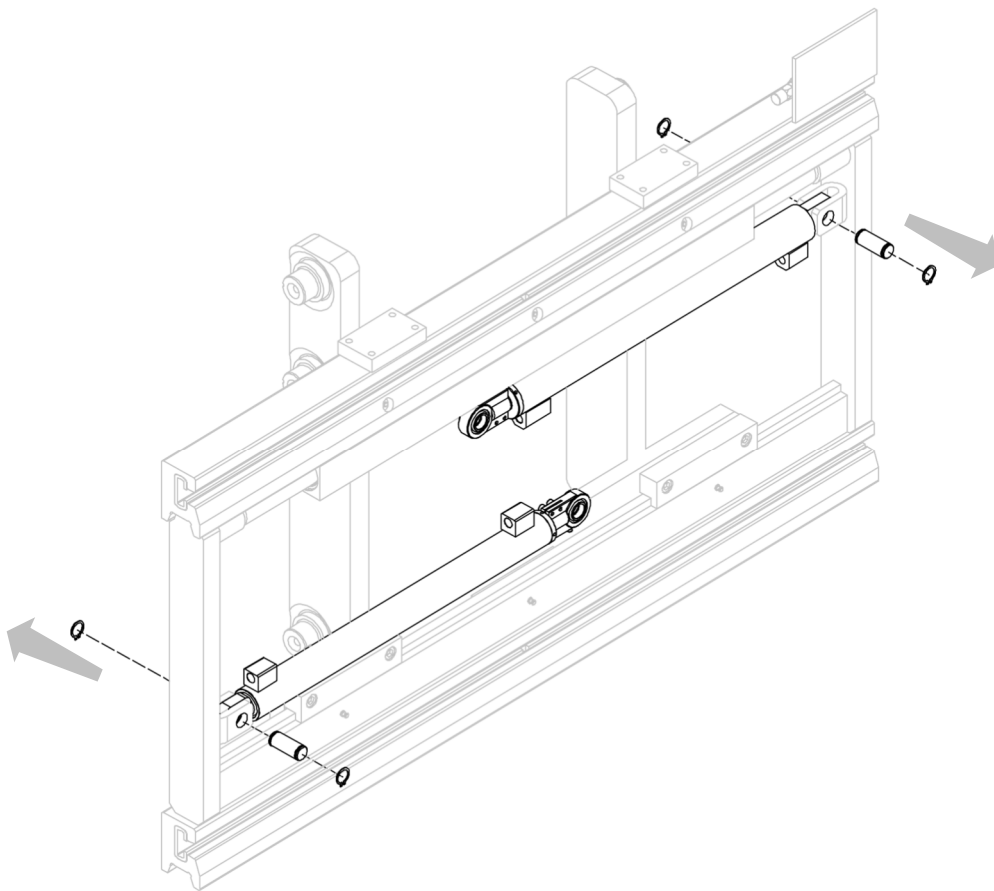

Figure 29
3. Remove, one at a time, the cylinders after removing the relative pins and snap rings that constrain hold to the structure of the equipment (see Figure 29).